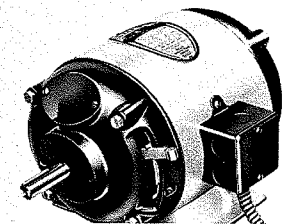

FIG. 21-5
*Repulsion-start-introduction-run motors:* This was the first successful type of single-phase induction motor in regular commercial use and was popular from 1896 until 1930 or so. Repulsion-induction (RI) motors are still used on some equipment because by lever they can be reversed quickly without tools or a switch (Fig. 21-5). They are still used on some tilting arbor saws because they have no capacitor to take up needed space on either the inside or the outside of the motor frame. They are also used for hard-to-start equipment because they have a starting torque 3 to 4 times the running torque and the starting current is  $2\frac{1}{2}$  to 3 times the running current. The RI motor has a wound rotor with commutator and brushes. When the motor reaches about three-quarters full speed, the commutator bars are short-circuited and the motor runs as an induction motor. All this requires maintenance. The motion must be kept clean and possibly blown out with air periodically. Around 1933, capacitor-start motors began to take the place of the RI motors, especially in fractional horsepower ratings, until now with few exceptions RI motors are not made in fractional sizes. The RI motor is very efficient but also the most expensive single-phase motor.